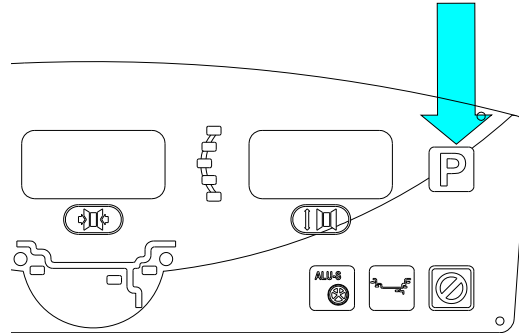

Figure 37
1. Activate Calibration. Press and hold the **P** button (Fig 37) while rotating the shaft until the display reads "P" "14".